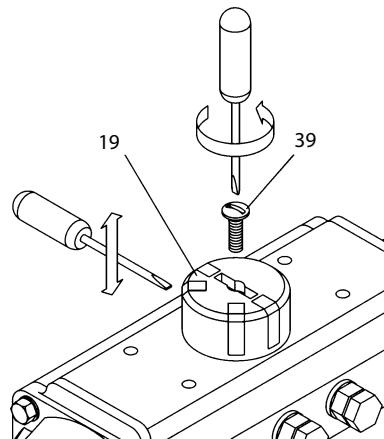

Figure 3
1. Removal of Position Indicator (19,20), (Figure 3):